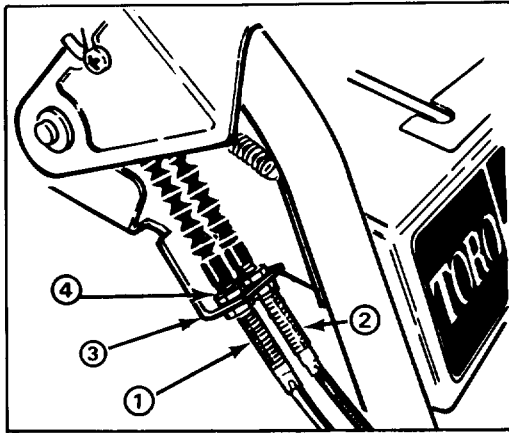

Figure 27
4. Loosen upper jam nut securing auger/impeller cable to mounting bracket (Fig. 27).
5. Rotate bottom jam nut upward to increase belt tension (Fig. 27).
ADJUSTING TRACTION DRIVE BELT (Fig. 27)
8. On control cable which corresponds to belt being replaced, loosen jam nuts securing cable to bracket (Fig. 27). Cable must be free to slide in bracket when changing belt(s).